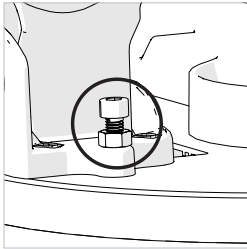

Fig. 23
- Loosen slightly the 45° Bevel Stop Adjustment Screw locknut. (**Fig. 23**)